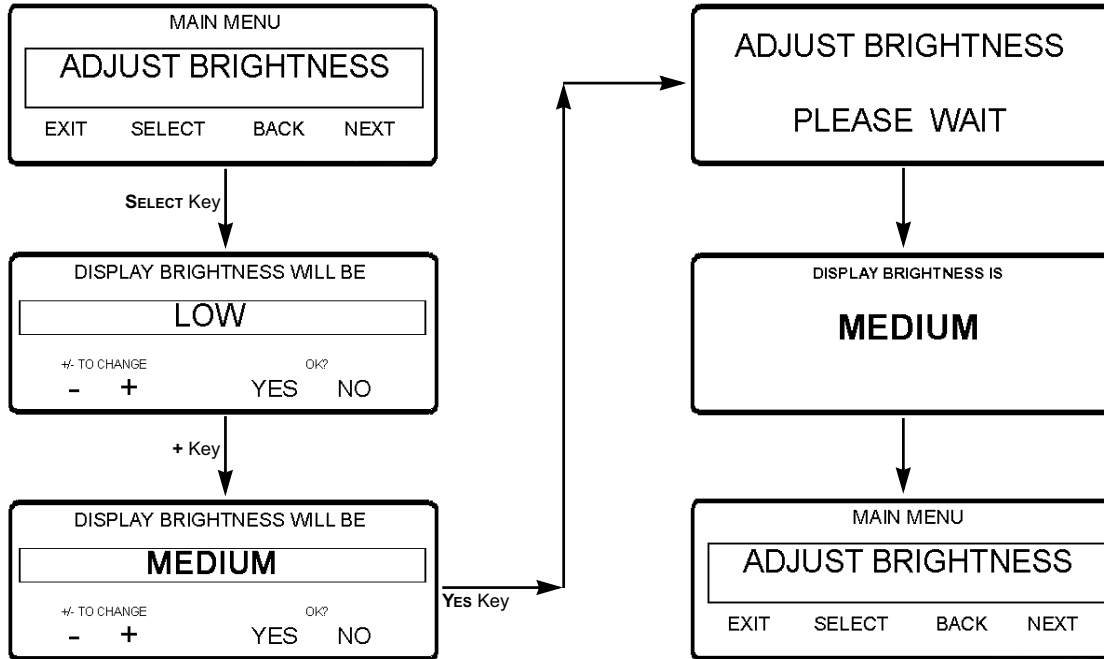

Figure 90: Adjusting Display Brightness Screen Sequence
3. Press the **NEXT** soft key until the Adjust Brightness Menu appears. See Figure 90.
4. Press the **SELECT** soft key to enter the Adjust Brightness Menu. See Figure 90.
5. Press the **+** or **-** soft keys to select the desired brightness. See Figure 90. This example shows changing screen brightness from low to medium.